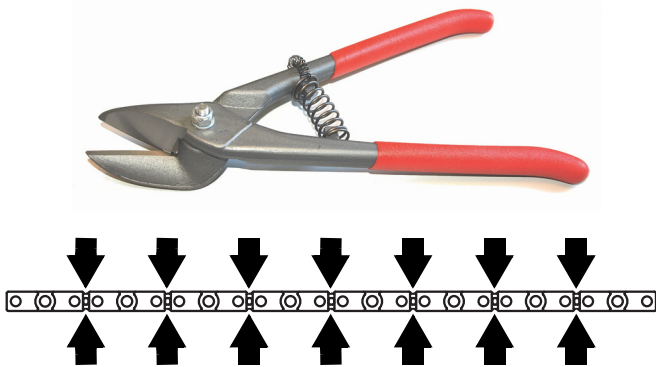

Figure 3. Cutting mounting ribs
4. See Figure 3. Cut mounting ribs with tin snips along the lines arrowed so that you have two mounting rib sections per Lens Array.